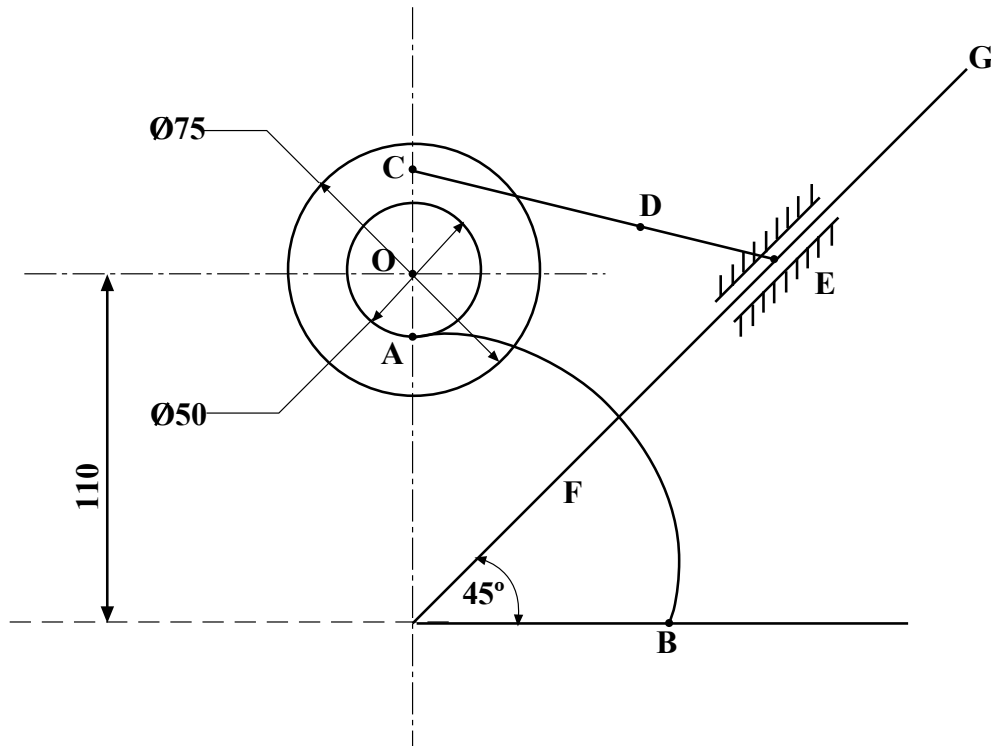

Figure 5
5. **Figure 5**, shows part of the mechanisms of a wrapping machine. The flanged wheel centre **O** rolls clockwise without slipping along the arc **AB**. The arm **CD** is pin jointed at **C** and **E**. The position at **E** is constrained to a reciprocating movement along the line.